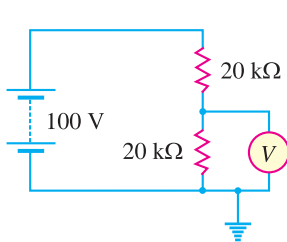

Fig. 22.28
1. A voltmeter is used to measure voltage across 20 kΩ resistor as shown in Fig. 22.28. What will be the voltage value if (i) voltmeter has infinite resistance (ii) voltmeter has a sensitivity of 1000 Ω per volt and reads 100 V full scale ?
3. If the sensitivity of voltmeter in Fig. 22.28 is 500 Ω/volt (Full-scale reading being 100 V), what will be the reading of the voltmeter ?